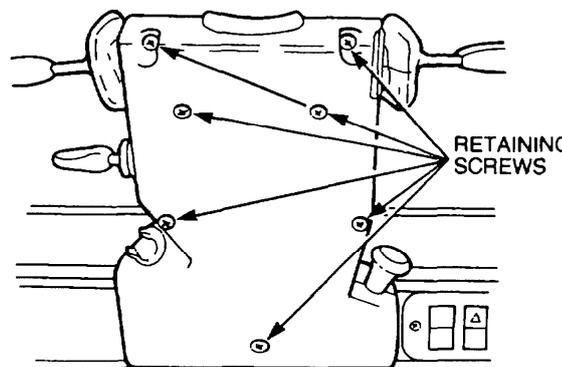

Figure 194 Steering Column Shroud Removal
- e.** Remove the seven screws securing the steering column shroud (Figure 194).
e. Remove the seven screws securing the steering column shroud (Figure 194). Remove the shroud.
- e. Remove the seven screws securing the steering column shroud (Figure 194).